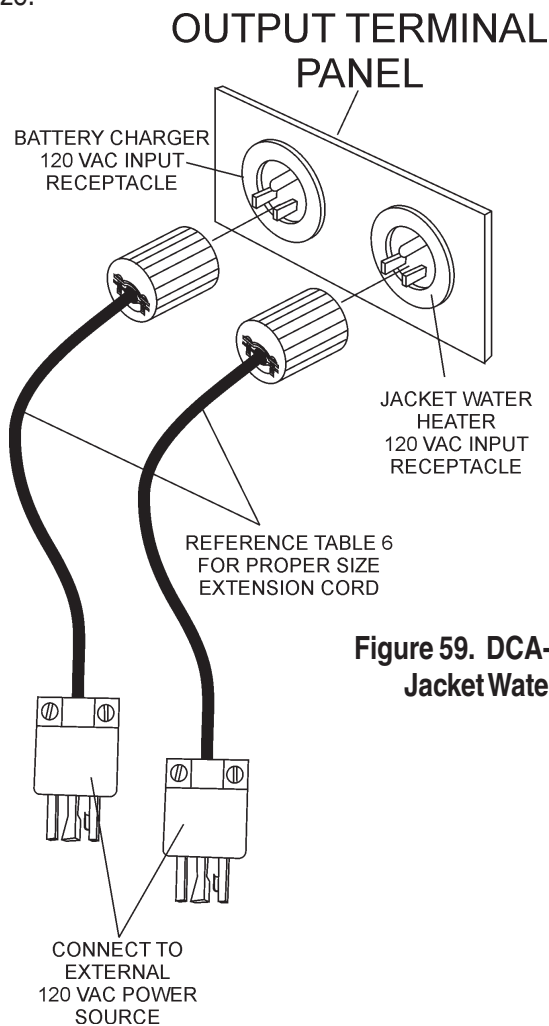

Figure 59. DCA-220SSJ/SSJUBattery Charger & Jacket Water Heater Power Connections
These receptacles will **ONLY** function when commercial power has been supplied to them (Figure 59). To apply commercial power to these receptacles, a power cord of adequate size will be required (See Table 6).
12. **Lug Nuts** - Used to secure the wheel to the wheel hub. Always use a torque wrench to tighten down the lug nuts. See Table 16 and Figure 59 for lug nut tightening and sequence.
Figure 59 displays the major hydraulic surge brake components that will require inspection and maintenance. Please inspect these components as required using steps 1 through 8 and Table 15 as listed below: